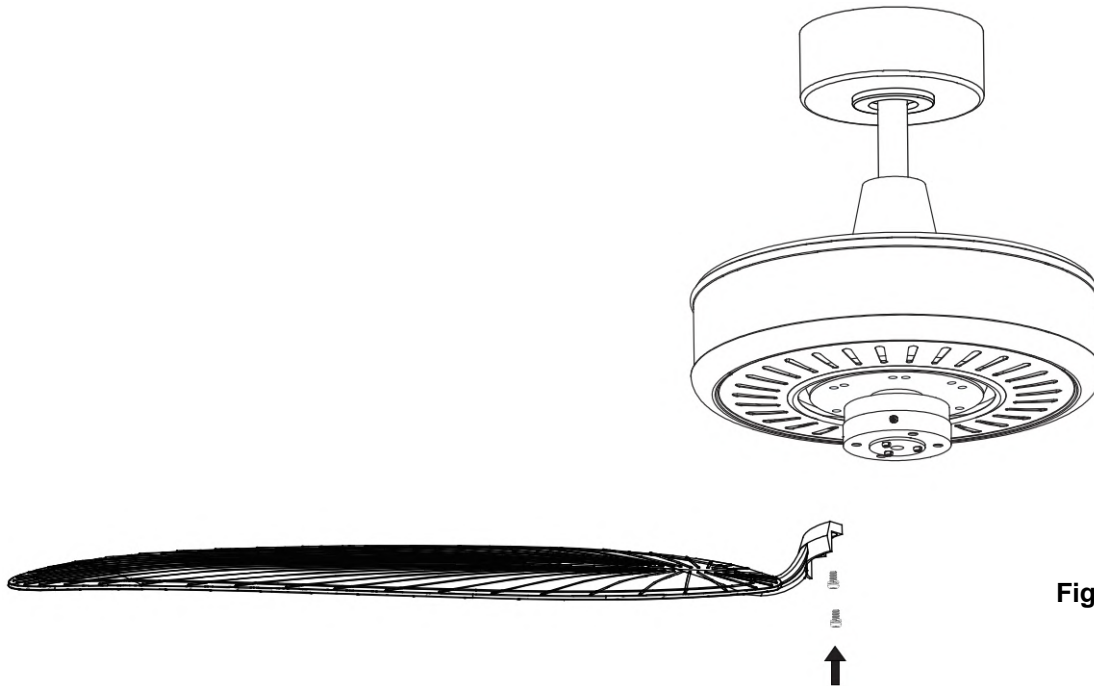

Fig. 6.3
3. Install the fan blade assembly to the fan assembly by tightening the 2 screws and spring washer set. (Fig. 6.3)